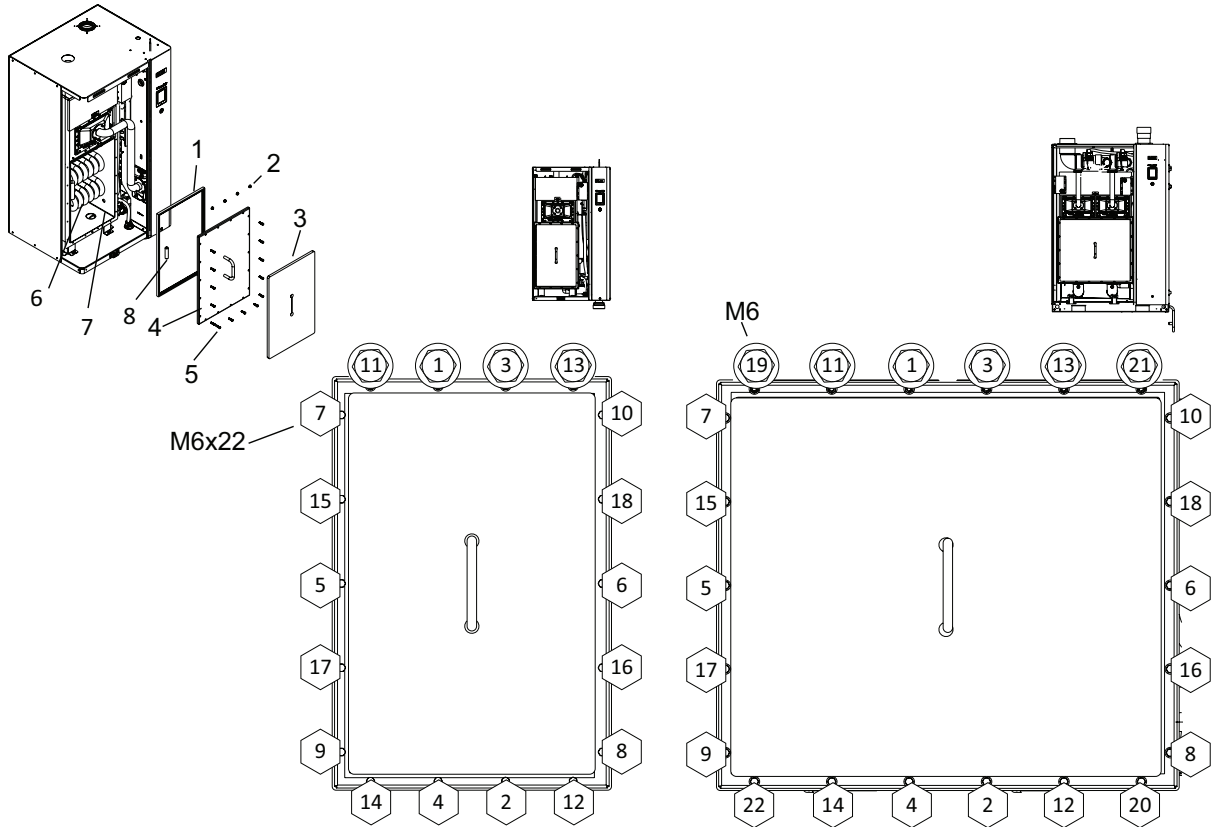

Figure 10: Tank Door Torque Sequence
Clean the inside of the tank, the outside of the primary heat-exchanger coils and the drain fitting as follows. Refer to Figure 10 on page 51. It is not necessary to remove the tank from the unit in order to clean it.
- Install a new tank gasket and secure the tank cover to the tank. **Note:** The order of torquing the bolts for the tank cover are shown in the hexagonal symbols in Figure 10 on page 51. Tighten bolts with your fingers and torque at the end of assembly. (*What is the max torque?*)